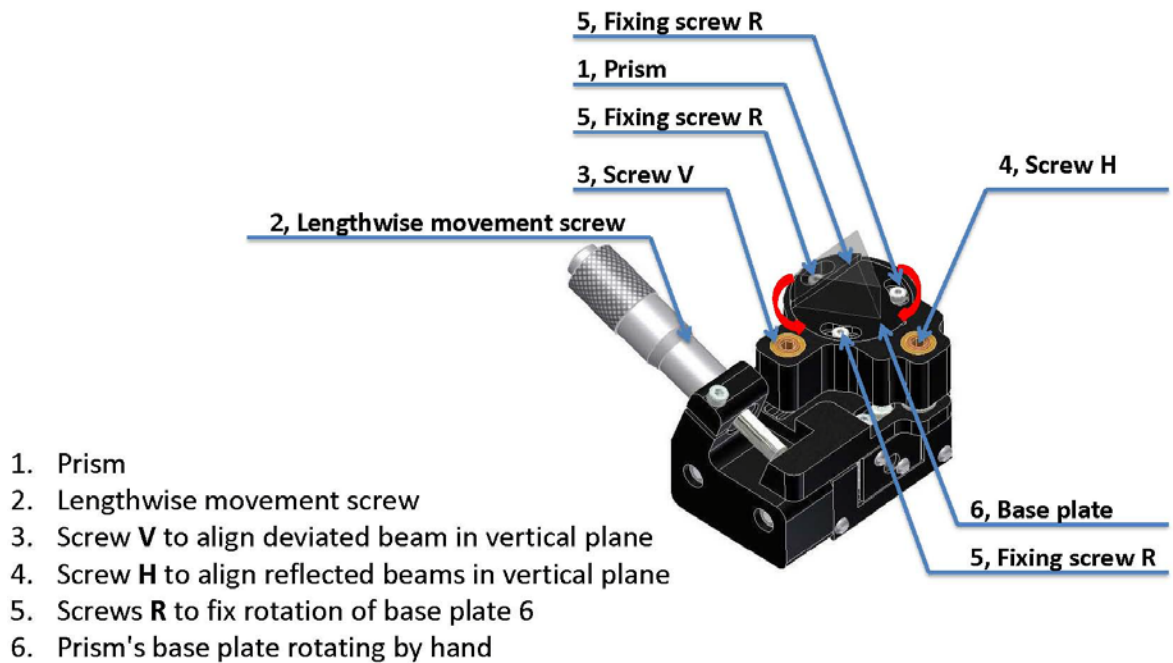

Fig. 13 Schematic picture of prisms fixation and service
- *Loosen but don't remove the rotation fixation screws R (**Fig. 13**).*
- *The heights of the beams should be at the same height as all beams in the resonator. If it is necessary use the adjusting screws to align the prism (see **Fig. 13**).*